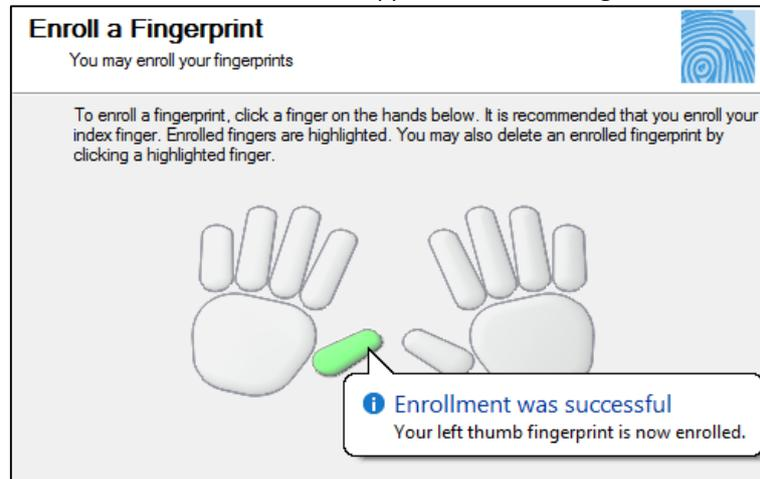

Figure 5
1. The "Finger Scanner" screen will appear as shown in **Figure 5**.